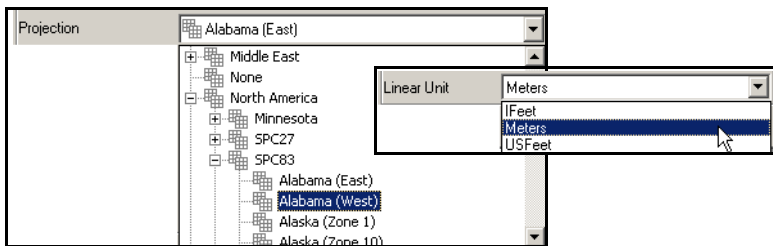

Figure 3-69. Projection and Linear Unit Lists
- Set the Projection and Linear units (Figure 3-69).